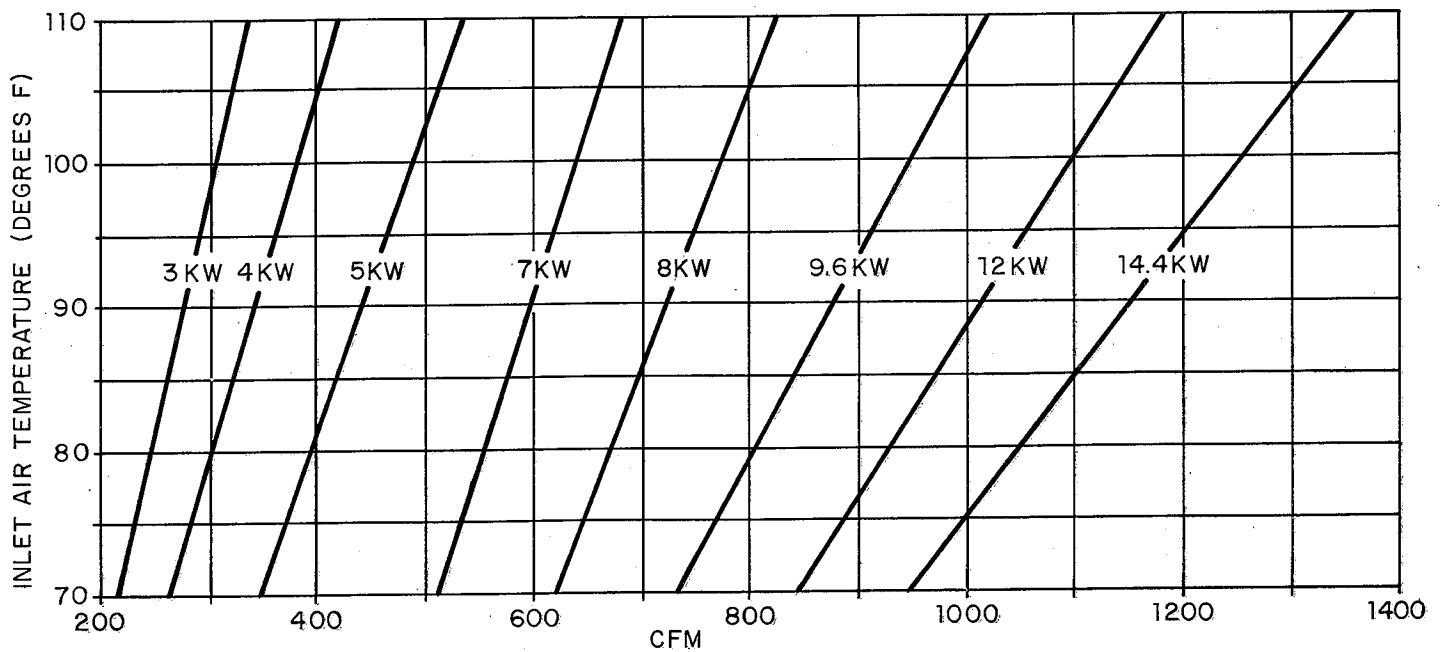

Figure 4 - Minimum Required Airflow with Optional Electric Duct Heater
2. If the air handling equipment is expressed in CFM's, then a direct cross-reference can be made by comparing the temperature of the air (as it enters the duct heater) to the KW rating on the chart at the rated CFM. See Figure 4.